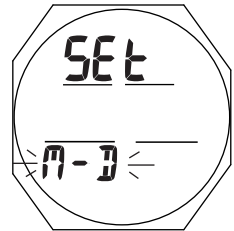

Fig. 17 - SET DATE FORMAT
**Set Date Format**, information includes (Fig. 17):